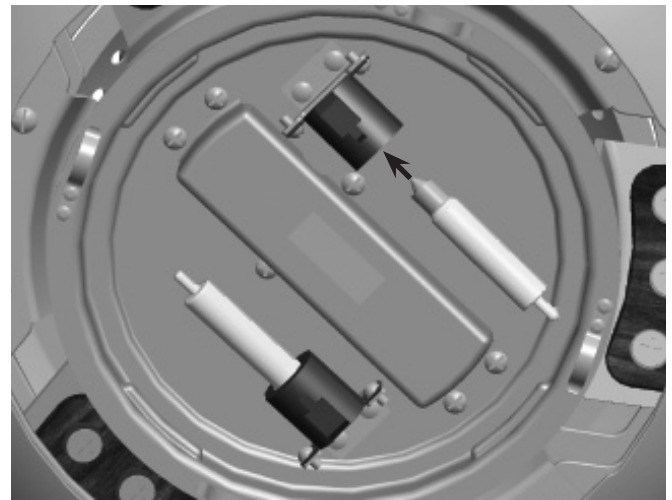

FIGURE 1.
**Step 1.** Install both Halogen Bulbs into the Light Kit. Figure 1.